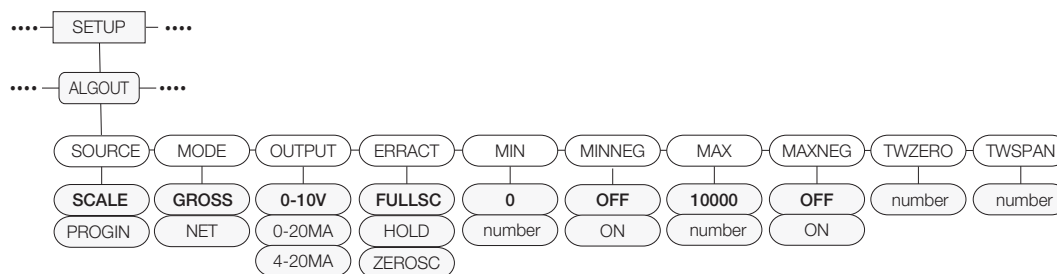

Figure 8. Analog Output Menu
- Enter setup mode and go to the ALGOUT menu (Figure 8):